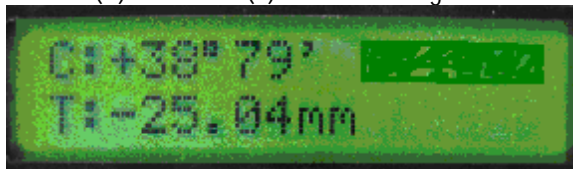

Fig.2.7
[Display probe rod measurement]: Real-time display Camber (C) and Toe-in (T) as shown in Fig.2.7.